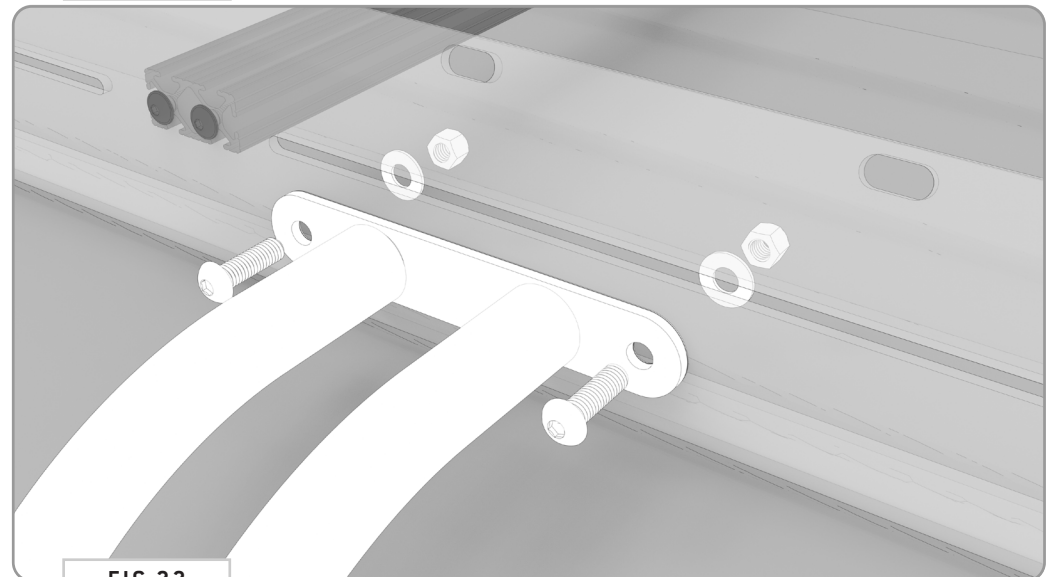

FIG 22
5.4 Attach to Roof Rack (Low Pro): Loosely attach your **Surf Pole** to the drilled out mounting holes as shown (**FIG 22**) using the provided **3/8-16" Button Head Screws, Flat Washers and Nylon Locknuts**.